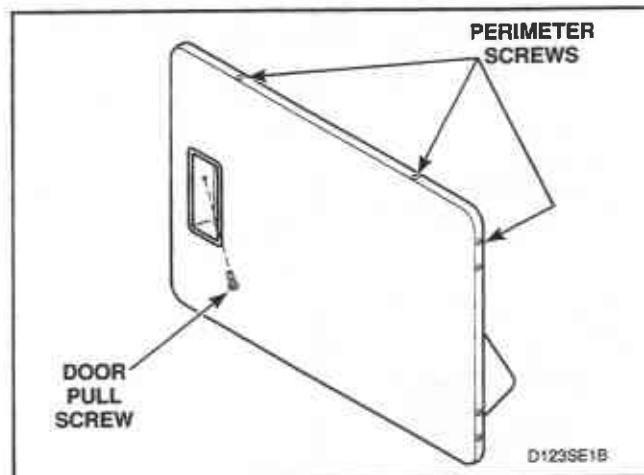

Figure 10
- Remove screw from door pull, *Figure 10*, and the remaining screws around the door perimeter and separate panels, *Figure 10*.
- Remove screw from door pull, *Figure 10*, and the remaining screws around the door perimeter. Set hinges aside at this time.